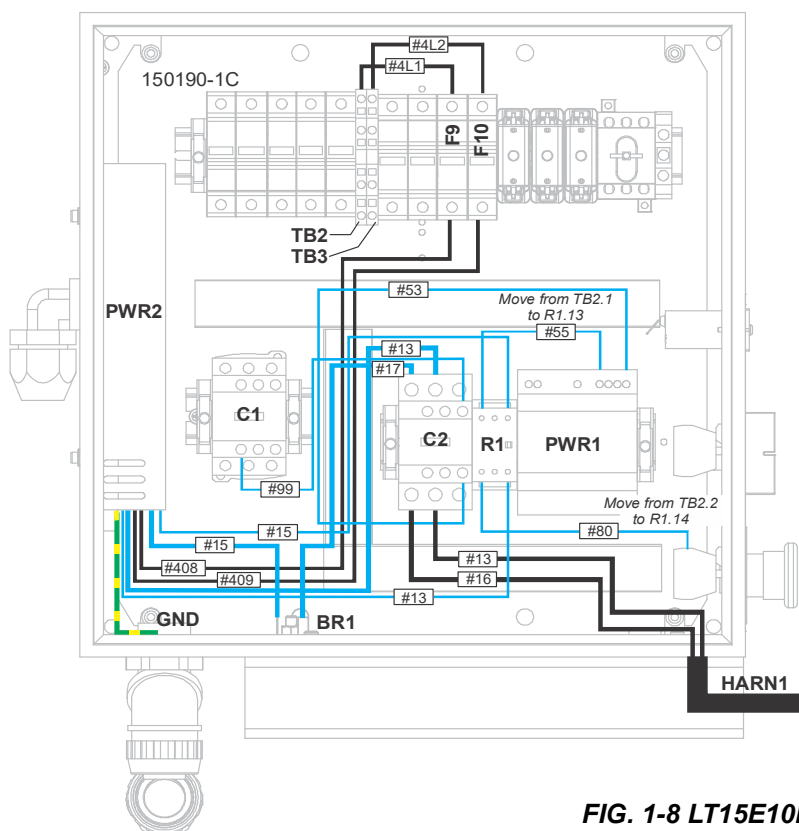

FIG. 1-8 LT15E10H
1. Remove the cable duct covers to access the control wiring. See Fig. 1-8.
20. Connect wire #16 to contactor terminal #2/T1. See Fig. 1-8.